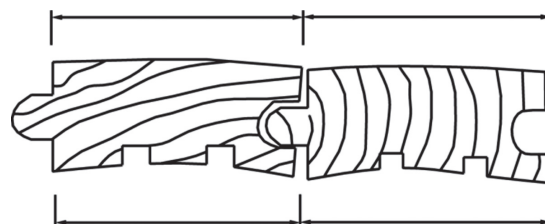

Figure 1-12 Crowning
Simply multiply these radiant thermal transfer coefficients by the temperature difference (between the panel surface temperature and the room set point temperature) and by the square footage of the panel to calculate the Btu/hr that the panel can supply to the room. Or, use Figure 1-12 to determine the panel surface temperatures required to supply a room's heat load.
- a. Floor: Find 28 Btu/hr/ft² on the vertical axis of Figure 1-12, and move to the right until you intersect the line labeled "Floor." From this intersection, move down to the horizontal axis and read the ΔT between the room temperature and the floor surface temperature. The result is 14.7°F.
- b. Wall: Find 36 Btu/hr/ft² on the vertical axis of Figure 1-12 and move to the right until you intersect the line labeled "Wall." From this intersection, move down to the horizontal axis and read the ΔT between the room temperature and the floor surface temperature. The result is 25.7°F.